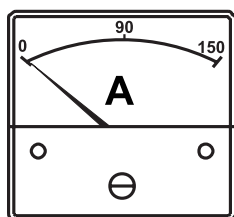

Figure 49. Ammeter (No Load)
6. The ammeter (Figure 49) will indicate **zero amps** with no load applied. When a load is applied, the ammeter will indicate the amount of current that the load is drawing from the generator.